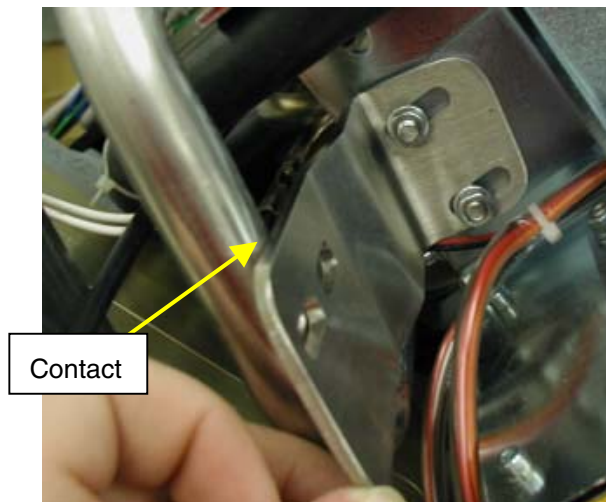

Figure 4. Positioning bracket in proper location
3. Slide the bracket along the heat exchanger such that it makes contact with the oil pump inlet pipe (Figure 4).